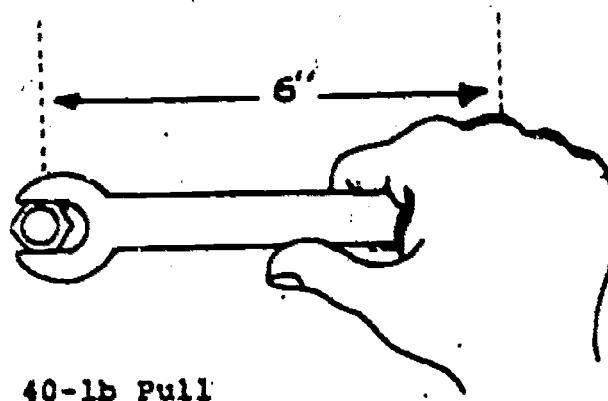

Figure 3. Torque - Length x Force
If a wrench handle is six (6) inches from the center of the drive to the hand grip, applying a force of forty (40) pounds will produce 240-inch pounds of torque (6 inches x 40 lb = 240 inch lb). See figure 3 below.